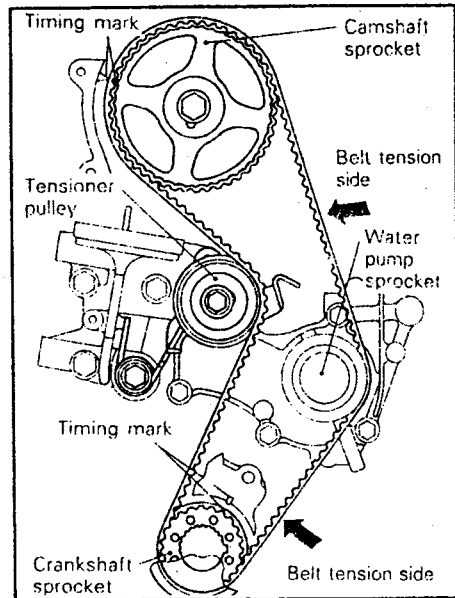

Fig. 1.62. — The timing belt of a 1.8 litre engine in position. Timing marks must be aligned as shown. The belt must be tight at the points shown by the arrows.
- Rotate the crankshaft and camshaft slowly until the timing marks of camshaft sprocket and crankshaft sprocket are aligned as shown in Fig. 1.62.
- Place the timing belt over the various sprockets and the tensioner roller. The belt must be placed over the crankshaft sprocket, then the water pump sprocket, the camshaft sprocket and finally under the tensioner roller. The belt must be tight on the side shown by the arrow in Fig. 1.62. If necessary, re-locate the belt by one tooth.